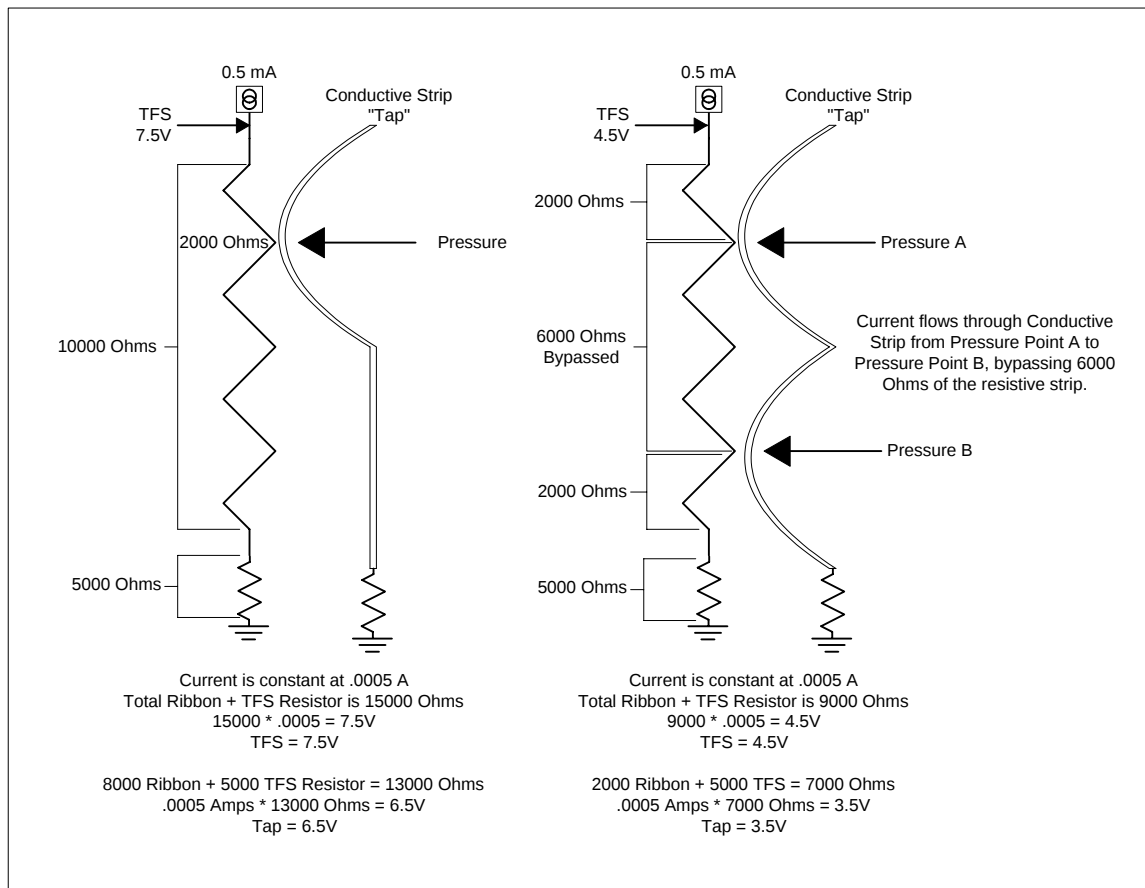

Figure 14: TFS Function in Current Mod of Operation
7.5V is the “resting voltage” of the raw current mode TFS signal. This means, with no pressure point, or only one pressure point, this voltage remains at 7.5V. On the right side of Figure 14, we have an illustration depicting two pressure points with the same setup. The two pressure points are bypassing 6k Ohms, so there is 4k Ohms of the ribbon plus 5k Ohms of the voltage TFS resistor remaining between the top of the resistive strip and ground – a total of 9k Ohms. So, in this example, the TFS voltage is now 4.5V: